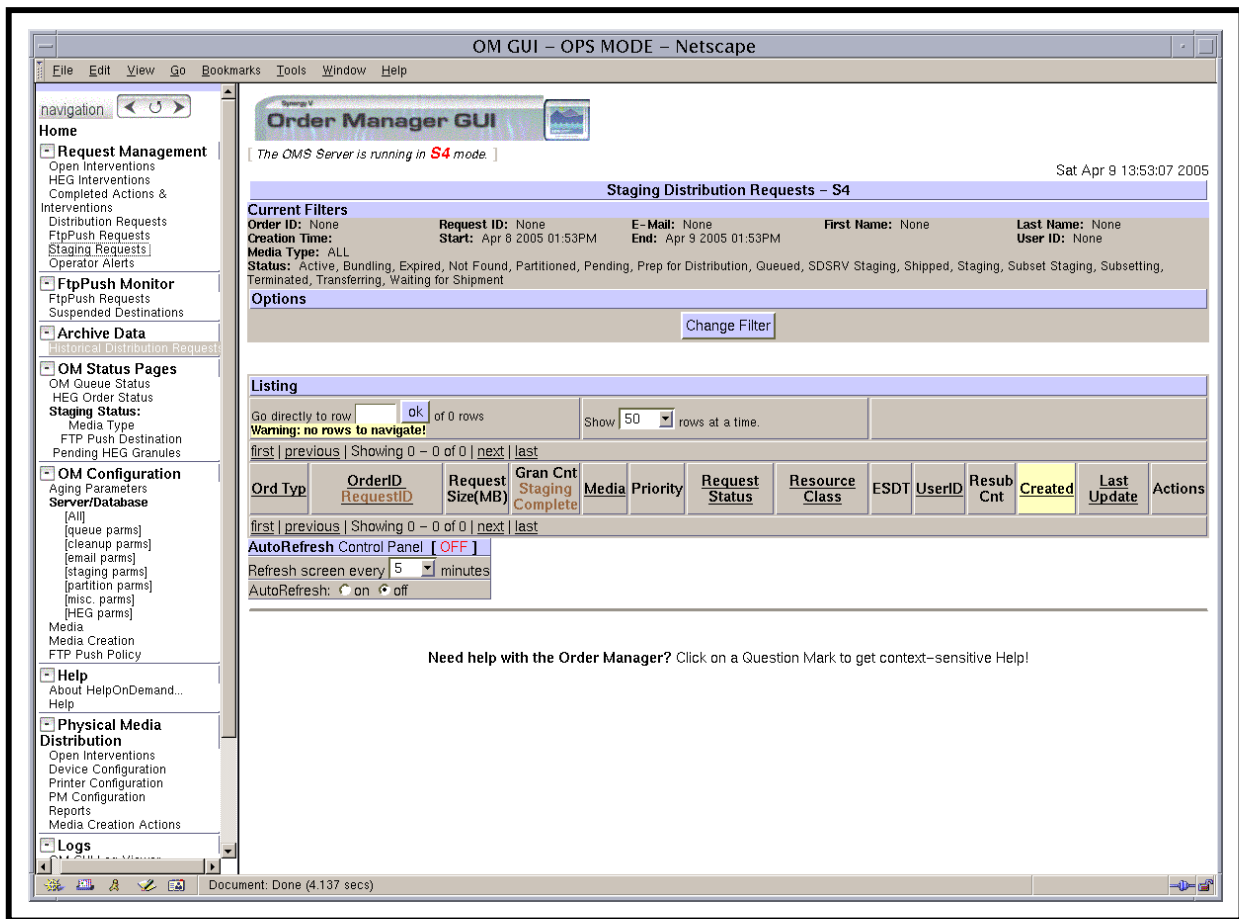

Figure 33. Staging Distribution Requests Page
- **Staging Distribution Requests** page (Figure 33).